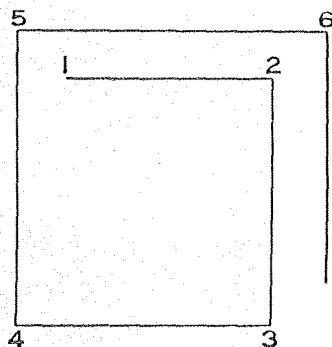

Fig. 8
8. LEARNING TO OPERATE THE MACHINE (Fig. 8)
Mark a design (see Fig. 8) on 30 cm (12 inch) square piece of cloth. Place cloth under presser foot so that the needle will enter cloth at point 1. Turn handle ④, Fig. 6 to the right and the hook of the needle will be turned in the same direction. Lower presser foot, start machine pulley by turning it over away from you, grasp handle ④ and pull it down to start the machine. With handle depressed and to the right, cloth will be fed to point ②, then turn handle to the front and cloth will be fed to point ③ turn handle to the left and cloth will be fed to point ④ etc.